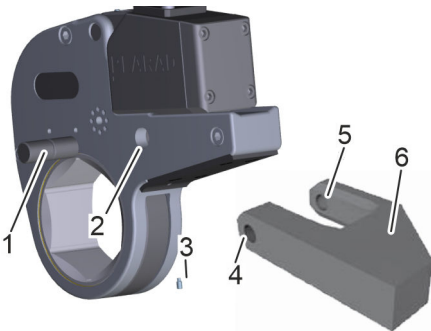

Fig. 16: Additional brace
11. An additional brace is available as an optional accessory. To mount it, unfasten the stud bolt (Fig. 16/3).
12. Press out the fastening pin (Fig. 16/1) with a suitable tool (Fig. 14/2).
13. Position the additional brace (Fig. 16/6) so that the holes (Fig. 16/2, 4 and 5) align.
15. Fasten the stud bolt (Fig. 16/3).